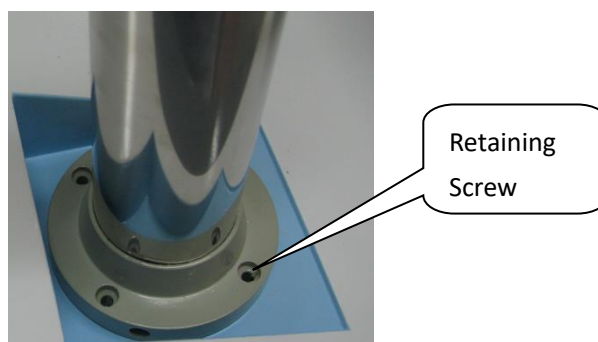

Figure 4
1. Take out the host bracket in the accessory, insert the host bracket into the host bracket port of the mobile station through the entire mobile station case till reaching the bottom, and fix the bracket with screws, as shown in Figure 4.